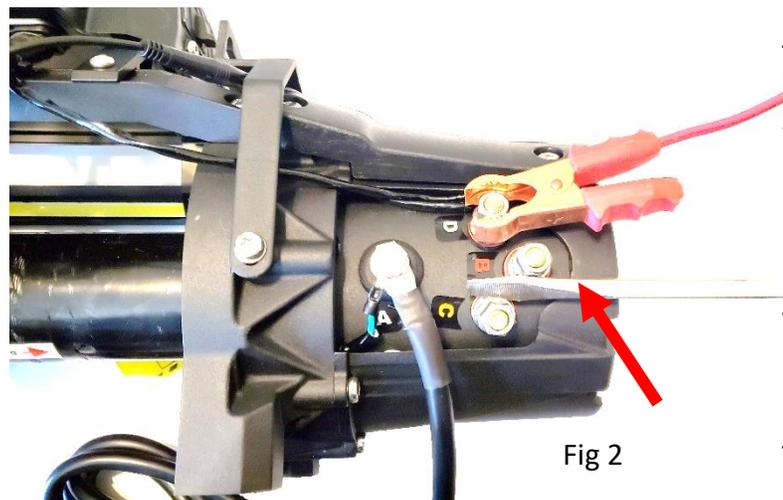

Fig 2
**Step 4:** Using a jumper cable from the positive battery terminal to terminal D (black) on the motor. Take care that jumper cable does not contact motor housing. Then using a screwdriver. Jumper the B (red) and the C (yellow) terminal. Motor should power the opposite direction. Fig 2.